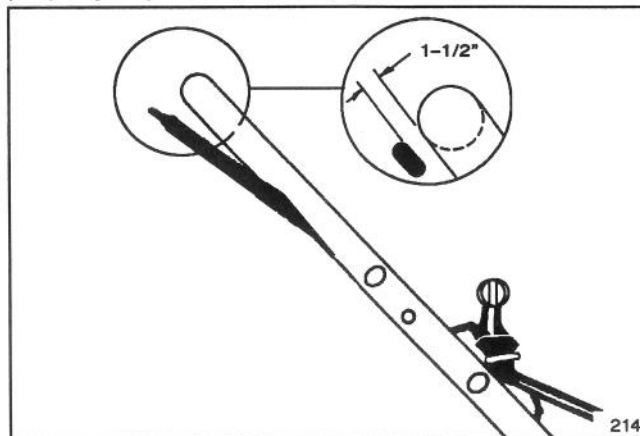

Figure 19
2. Lift control bar until some resistance is felt. Control bar should be 1-1/2" from handle when properly adjusted (Fig. 19).